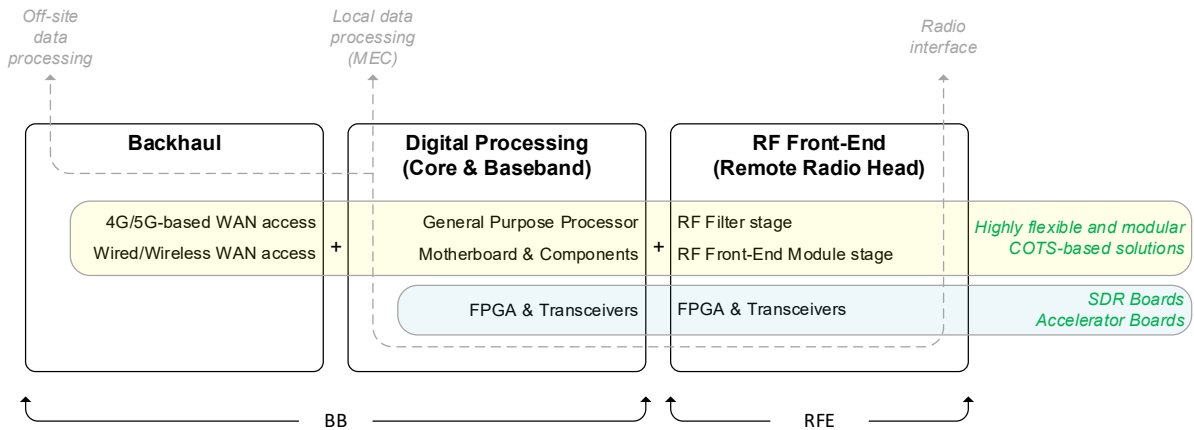

Figure 1-1: System architecture showing software layers — Backhaul connectivity, Digital Processing (Core and Baseband software), and RF Front-End interface.
The Amarisoft software suite provides the complete end-to-end 4G/5G cellular network stack, including radio access network (RAN) and core network (CN) components (see Figure 1-1):